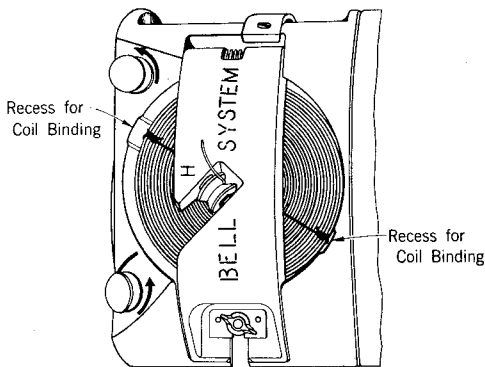

Fig. 8—Placing Wire Coil in H Cable Lasher
- (1) Loosen the wing nut on the cover latch and open the latch. The cover will open automatically.
- (2) Place a coil of wire in the magazine. The face of the coil should be toward the open side of the magazine. Position the coil with the two coil bindings in the recesses. Feed the loose end (inside end) of wire from the center of the coil through the throat in the cover. A coil of lashing wire properly positioned in the magazine is illustrated in Fig. 8.